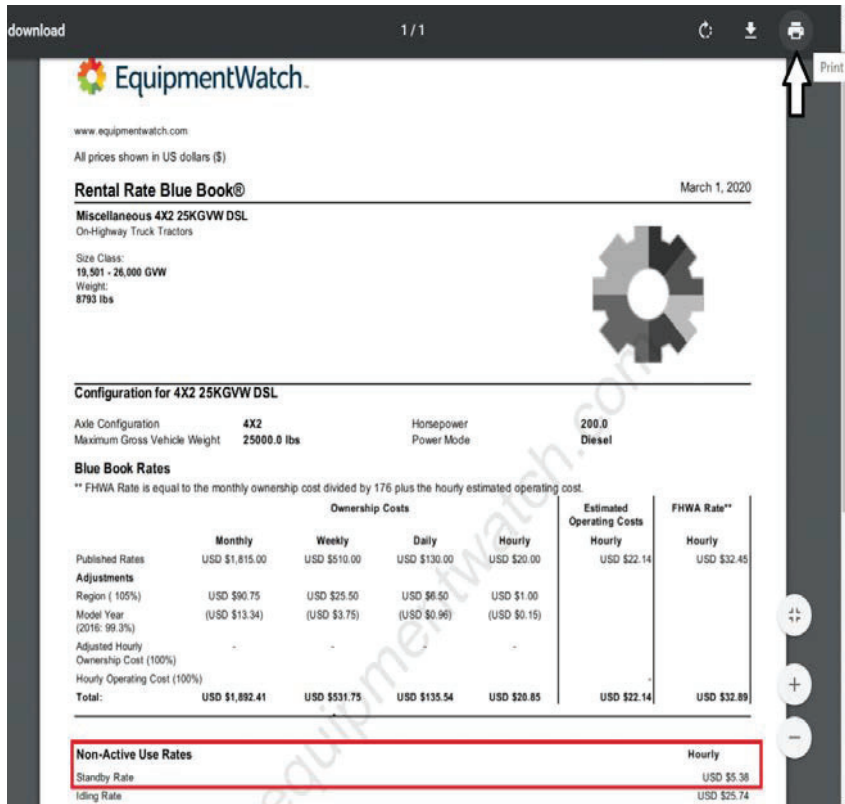

Figure 4-19: EquipmentWatch Equipment Rates Report
- vi. The Rental Rate Blue Book report opens in a new browser tab. Click the Print icon (Figure 4-19).